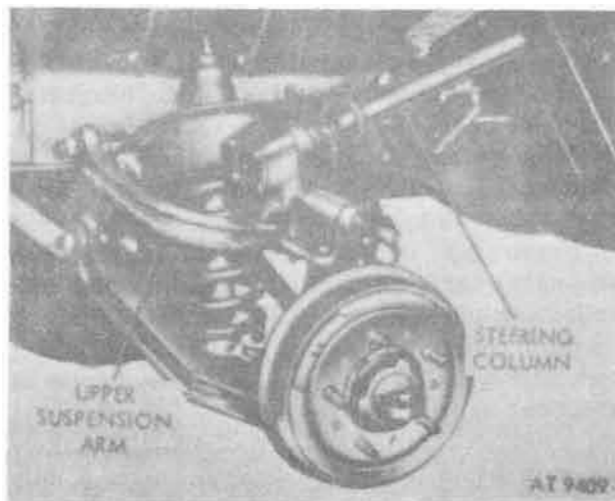

Figure 16-5. Left front suspension and steering gear assembly (M151, M151A1, M151A1C, and M718 vehicles).
i. Pull steering column through hole in dash panel while passing the steering gear over the front suspension upper arm (fig. 16-5).
Install sector shaft bushing using suitable tool (fig. 16-5). Install steering wormshaft bearing cup.